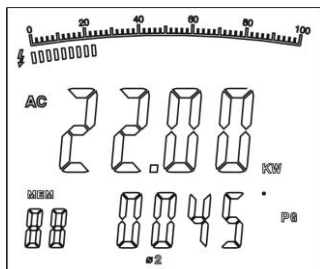

Figure 9
2. After record the current power measurement value of the first phase, then press **SEL** to choose $\phi 2$, The double display shows the value of acitve power kW and PG of the second phase **2.** as figure 9